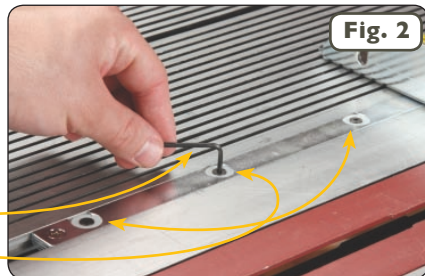

Fig. 2
2 Using the supplied 3/32" hex key, adjust each of the (3) visible miter bar expansion disks for a zero-sideplay, sliding fit in your Miter Channel as shown in **Figure 2**. Turning the fastener clockwise EXPANDS the bar width. The disks are designed to require a fair amount of adjustment torque for proper expansion.